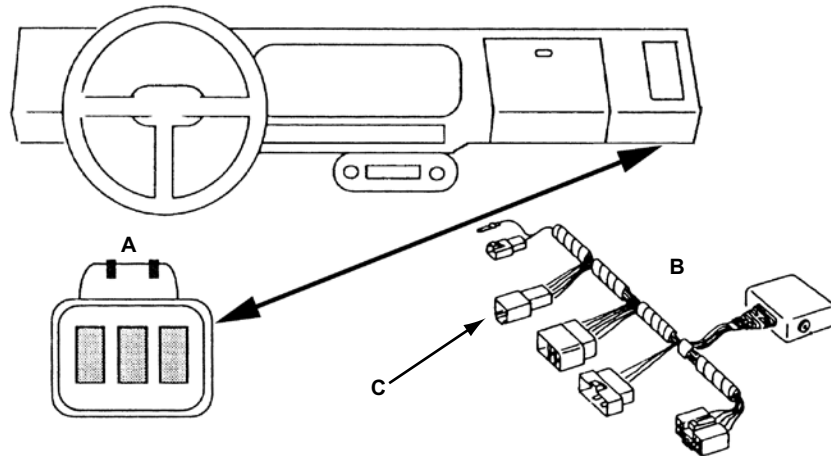

Figure 10-11 1985½–89 I-Mark, 1990 and later Impulse connector and adapter
- Connect the MULTI-2-D adapter to the white 3-pin connector (Figure 10-11 on page 103).